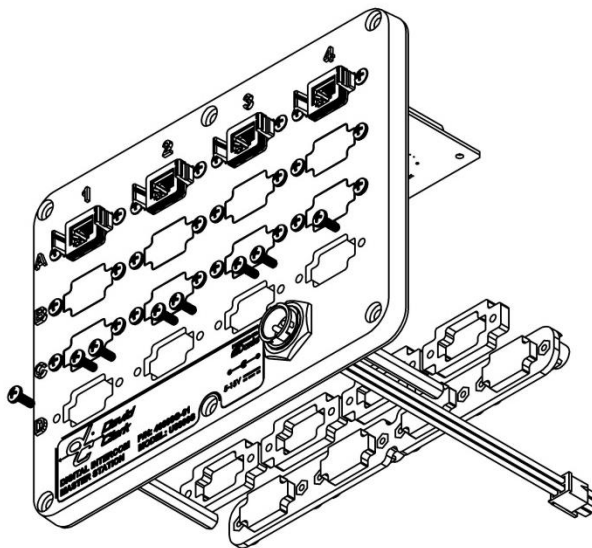

Figure 11.4 Adding/Removing Add-In Cards
1. Remove the eight screws from the blank plate and remove the plate (**Figure 11.4**).
1. Remove the eight screws from the card and remove the card (**Figure 11.4**).